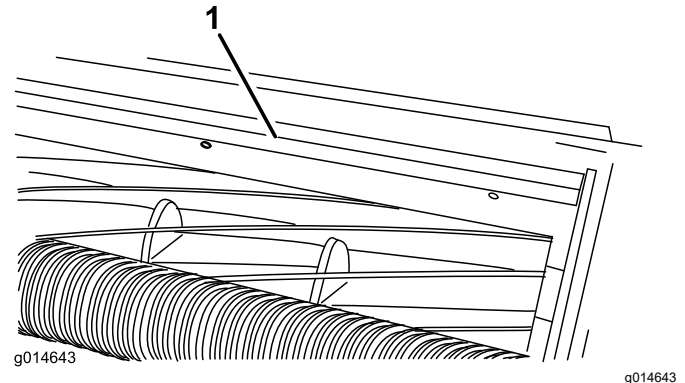

Figure 9
1. Loosen the bolts securing the top bar (Figure 9) to the cutting unit.